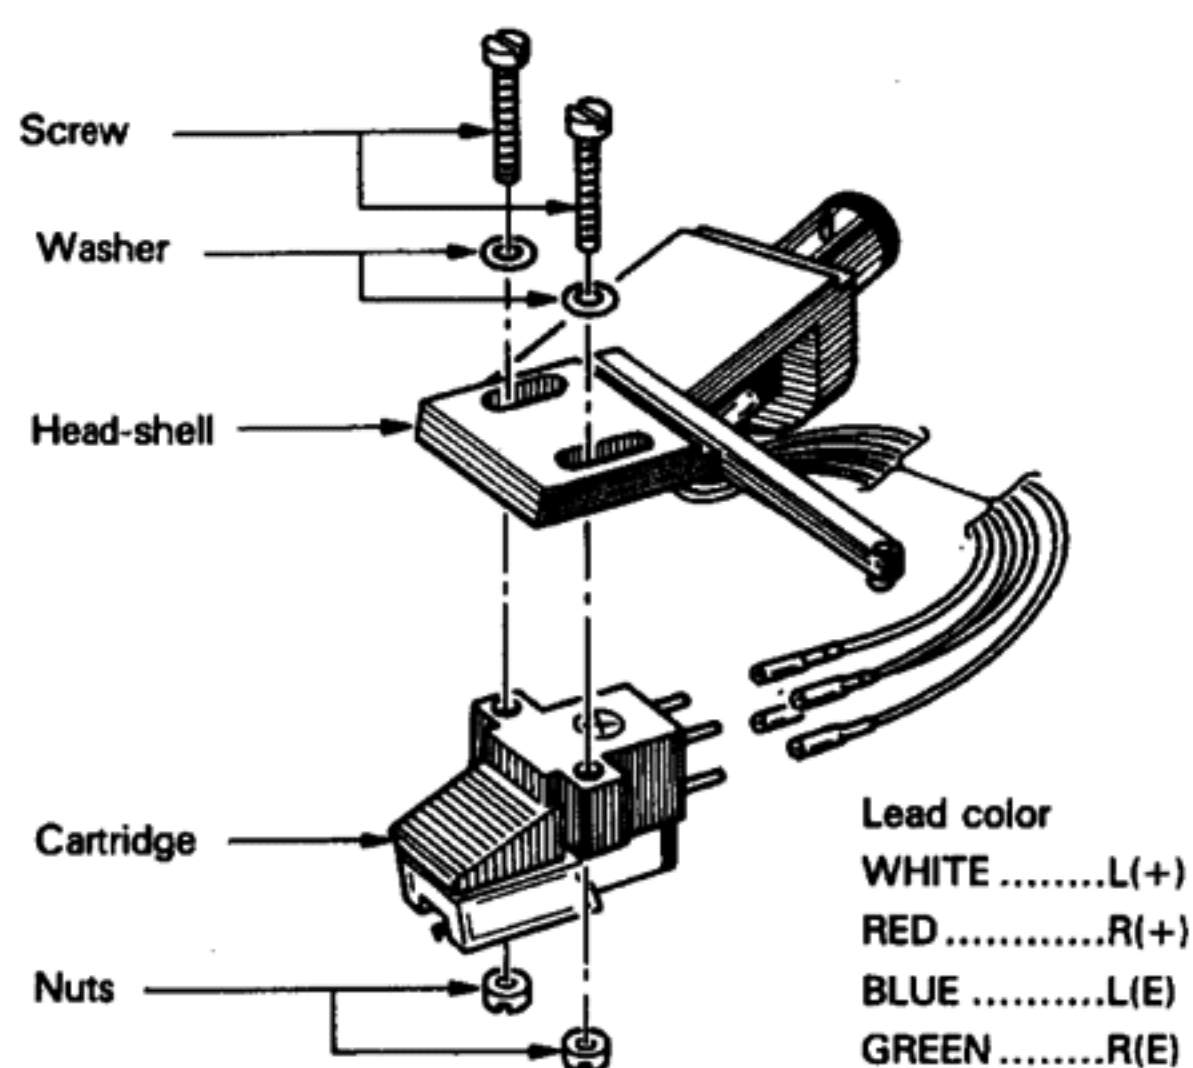

Fig. 10
1. Carefully insert the connectors of head-shell leads onto the appropriate pins of the cartridge. Refer to Fig. 10 for lead colors. Use tweezers or long-nosed pliers to handle the connectors.